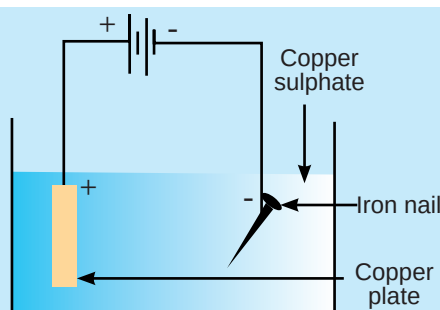

Figure 10.4
- Connect dry cells to the copper plate and the iron nail as shown in figure 10.4 and dip them at once in the copper sulphate solution.
Draw figures of suitable apparatus (as in figure 10.4) for no 1 and 2 instances stating the positive electrode, negative electrode and the electrolyte in each case.